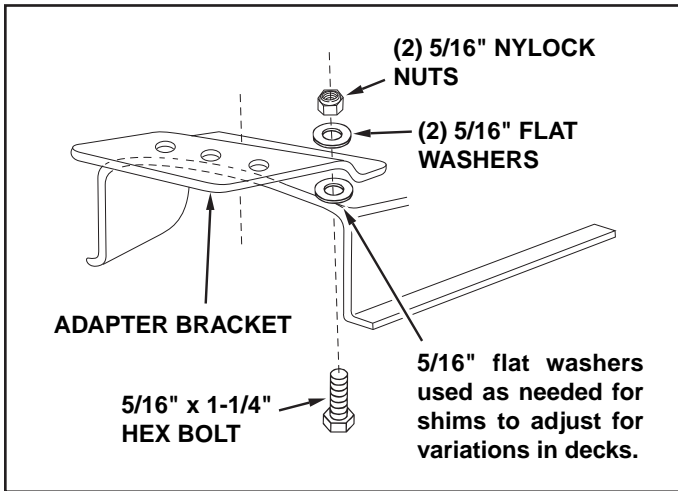

FIGURE 29
- Assemble the adapter bracket to the deck using two 5/16" x 1-1/4" hex bolts, 5/16" flat washers and 5/16" nylock nuts. See figure 29.
NOTE: It may be necessary to use extra 5/16" flat washers to shim under the bracket next to the deck surface. Ten extra washers have been furnished as shims. See figure 29.